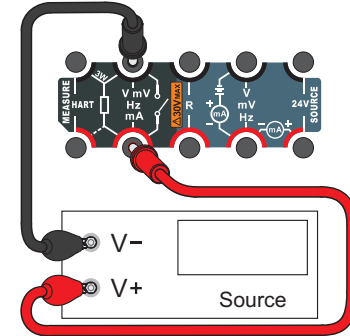

Figure 8 2 Millivolts or Volts Measurement
In the Basic Mode (as Figure 8 1) ,if the measurement area is active ,you can press the function keys (**V/Hz** , **Ω /L** , **TC/RTD** , **mA** , **μ**) which will display the corresponding items.Anytime that you want to access the non-active area, press the desired function key twice and the non-active area will become active (e g if the source area is active and you would like to change the measure function from mA to V then press **V/Hz** twice and the measure area becomes active and the **V/Hz** list appears for you to chose fom). To change any of measurement parameters ,the measurement area must be in an active state .Areas can also become active by selecting the Up/Down keys .
- 1 .Figure 8 2 shows the millivolts measurement connections .
- 1 .Figure 8 2 shows the volts measurement connections .
- 1 .Figure 8 3 shows the frequency measurement connections .
- 1 .Figure 8 4 shows the pulse counting connections .